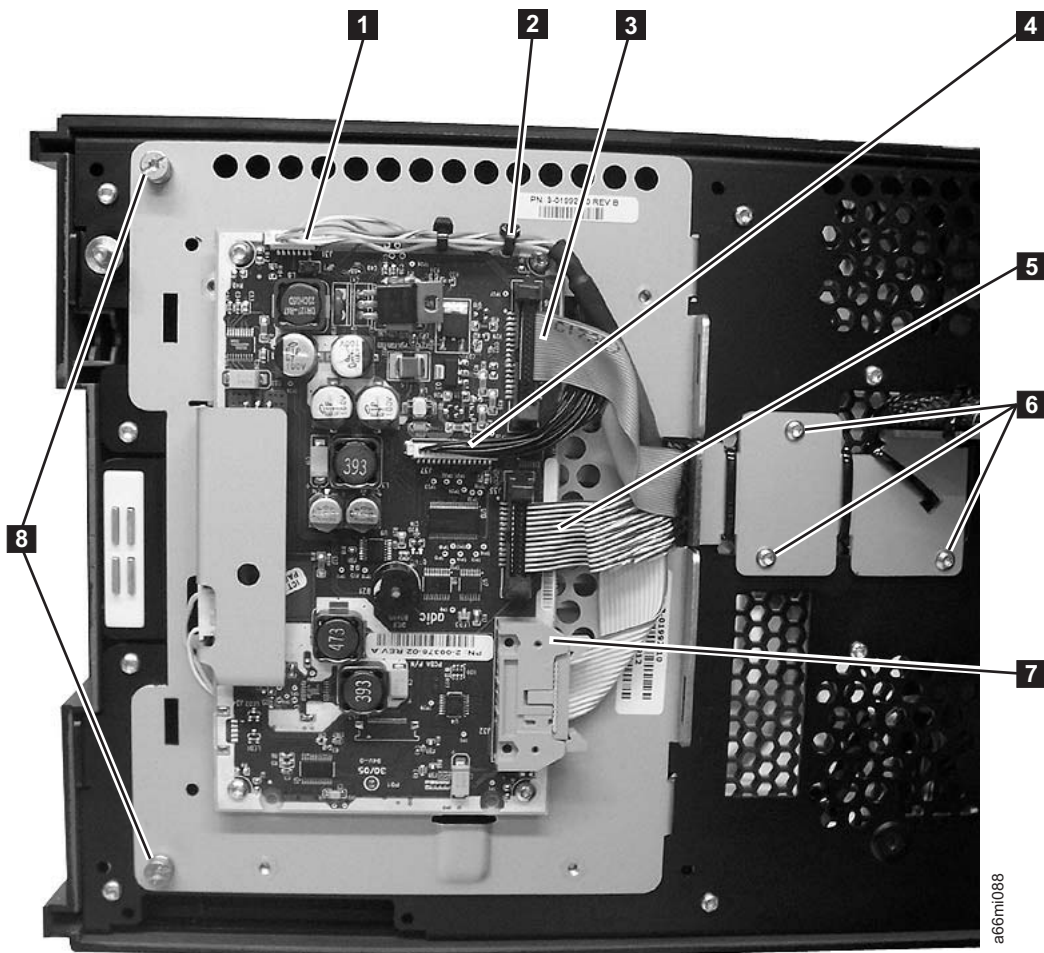

Figure 8-112. Operator Panel Cable Connectors
- e. Remove cable connectors J36 (see **3** in Figure 8-112 on page 8-104), J35 (see **5** in Figure 8-112 on page 8-104), and J32 (see **7** in Figure 8-112 on page 8-104) from the Operator Panel board.
- f. Remove the 3 screws (see **6** in Figure 8-112) from the cable retainer bracket on the back of the door.